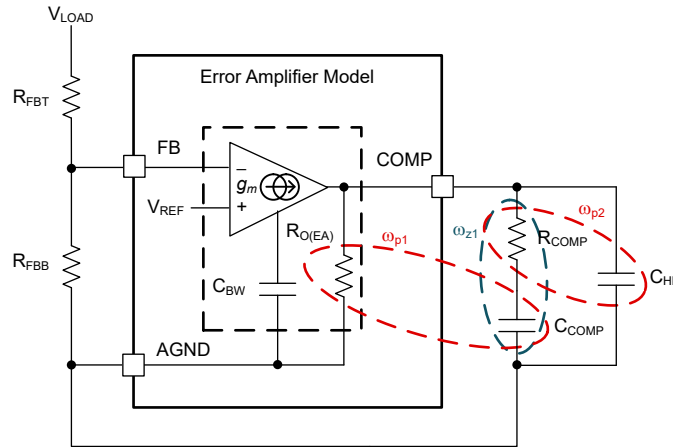

Figure 7-3. Error Amplifier and Compensation Network
Figure 7-3 shows a type-II compensator using a transconductance error amplifier (EA). The dominant pole of the EA open-loop gain is set by the EA output resistance,  $R_{O(EA)}$ , and effective bandwidth-limiting capacitance,  $C_{BW}$ , as shown by Equation 34.